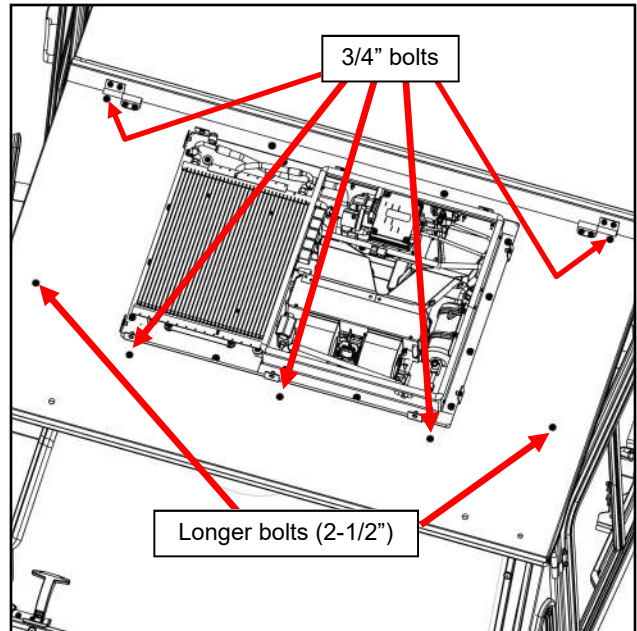

Fig. 3.3 Front Canopy (Roof) Fasteners
- 3.3 Per figure 3.3, insert the longer 1/4-20 bolts with plastic washers through the outer, front holes in the canopy, through the holes in the ROPS and through the lower flange of the headers and secure with nuts. Insert shorter 1/4-20 bolts with plastic washers through the remaining holes through the canopy as shown and secure with nuts. Do not fully tighten.